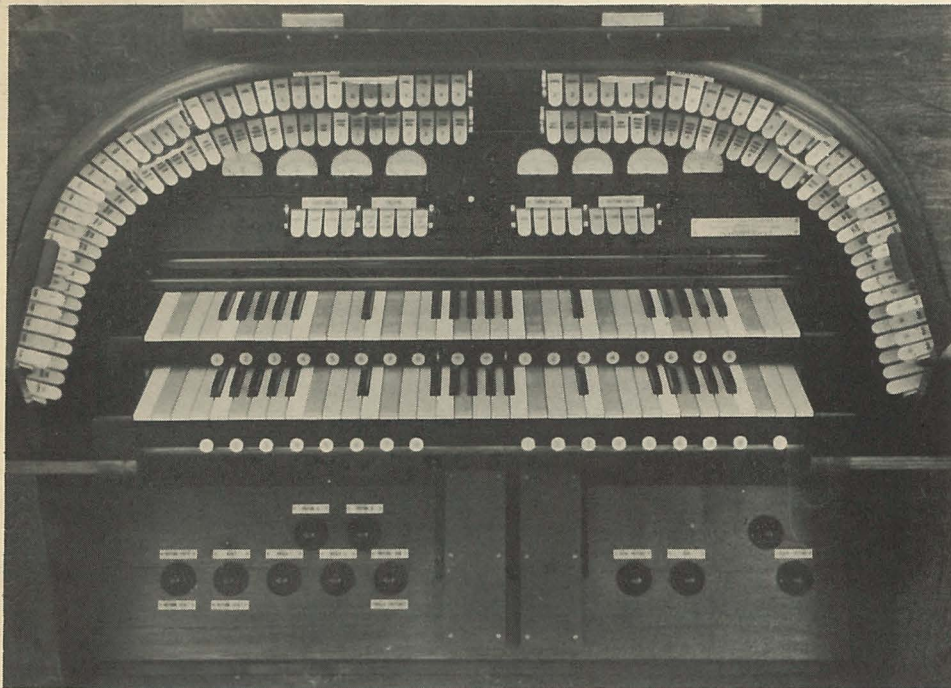

Fig. 1 (above)
At first sight the Light Console seems to differ considerably from one installation to another. There may be one keyboard with some straight rows of organ type stop-keys above it, or two or more keyboards with semi-circular rows of stop-keys almost exactly like the cinema organ. The two types are shown in Figs. 1 and 2. Then again, sometimes pilot lamps are fitted above each stop-key, and so on.
that the large number may be better accommodated within easy arm's reach of the seated operator. (see Fig.1).
5. STOP-KEYS (Figs. 1 and 2)
6. KEYBOARDS (MANUALS) (Figs. 1 and 2)